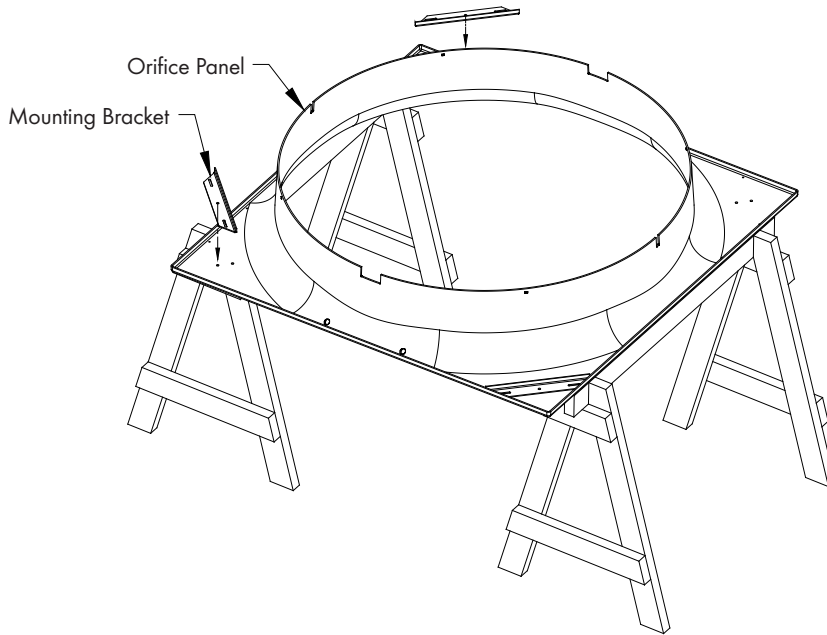

Figure 5
Place Orifice Panel on saw horses with the round orifice pointing up and place (1) Cone/Strut Mounting Bracket in each corner of the Orifice Panel. See Figure 5.